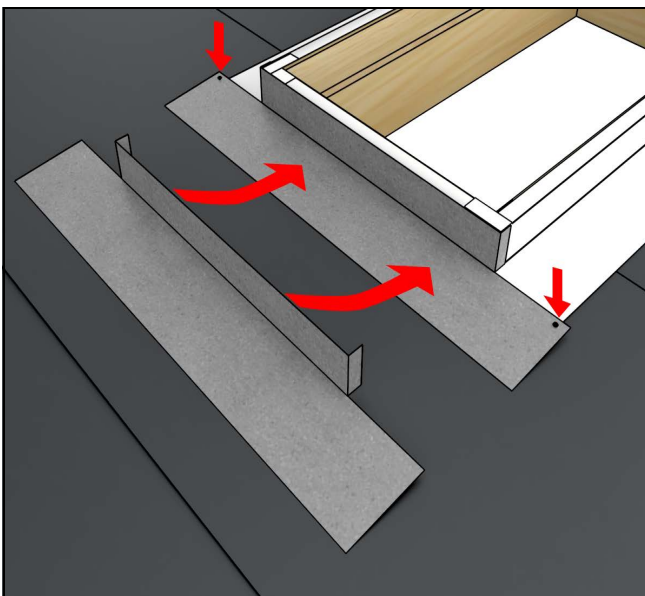

Figure 34
6. Place sill saddle centered on frame and bend over tabs. See Figure 34.